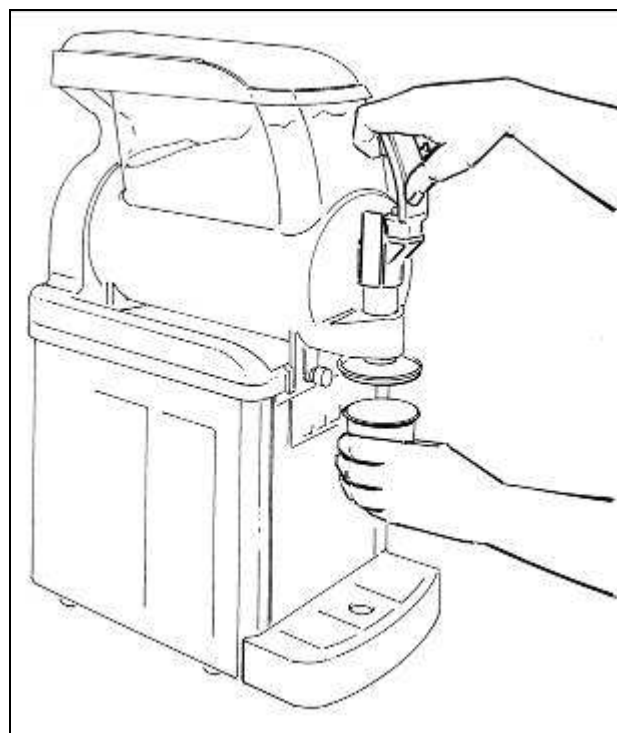

Fig. 25
- Once the desired product consistency is reached, to dispense product position a cup under the tap and lower the lever as shown in figure 25.